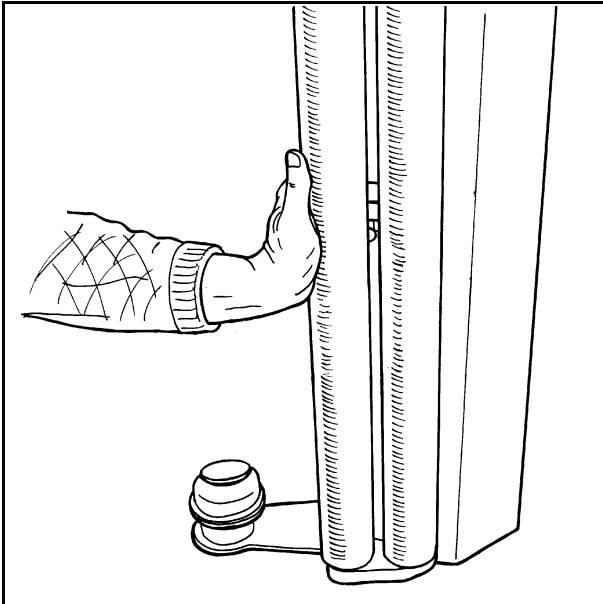

Fig. 6-1
- 6.1 When the plastic roll shall be mounted, you have to hold the prestretcher-rollers aside. Push the rollers to the side and hold in place with each of the locking springs. (See fig. 6-1).